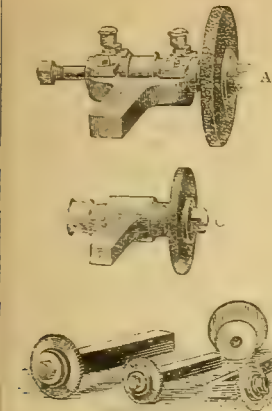
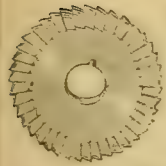

FIG. 2 (A, B, C).—
FIG. 3.—
2. *The Britannia Company's Improved Emery Wheels and Steel Cutters for Lathe Work.*—These Emery Wheels are illustrated in Fig. 2 (A, B, C), and the Steel Cutters in Fig. 3. The former are for use on the lathe for grinding by means of emery or corundum wheels, or for polishing, by removing the emery wheels and substituting for them buff wheels or polishing brushes. They can be held in the tool holder or applied to the work by any other suitable means.
appliances within their reach, many more will doubtless be led to do so. The Steel Cutters, one of which is shown in Fig. 3, are for use on the milling apparatus of lathe, and are made in many forms and sizes in order to meet the requirements of the turner in executing different kinds of work. The Britannia Company have omitted to furnish me with the prices of the wheels and cutters, but a post-card to the Company will speedily elicit the desired information for anyone who wishes to take advantage of them.